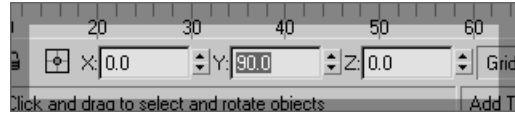

Figure 2.9
3. The bar needs to be rotated a perfect 90 degrees, and that is usually difficult to do by hand using the gizmo. Look at the bottom left of the Max UI, and you will see the orientation of the bar in three text boxes called the Transform Type-In boxes. You can enter a value of 90 in the Y-axis Transform Type-In box to set the bar to exactly 90 degrees, as shown in Figure 2.9.